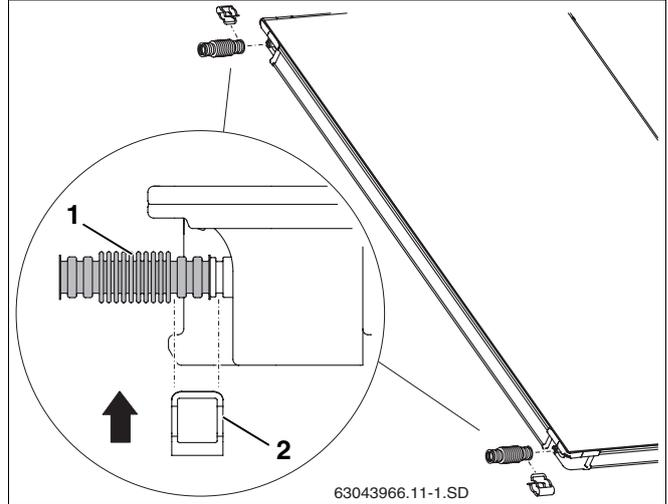

Fig. 48 Fitting corrugated pipe connectors to the first collector
- ▶ Push corrugated pipe connectors (Fig. 48, **Item 1**) onto the left-hand connections on the first collector.
- ▶ Push bracket (Fig. 48, **Item 2**) over the corrugated pipe connector and collector connection to secure the connection.